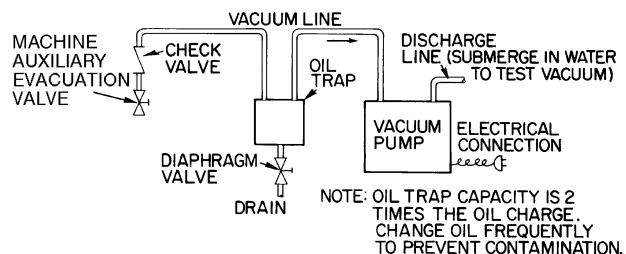
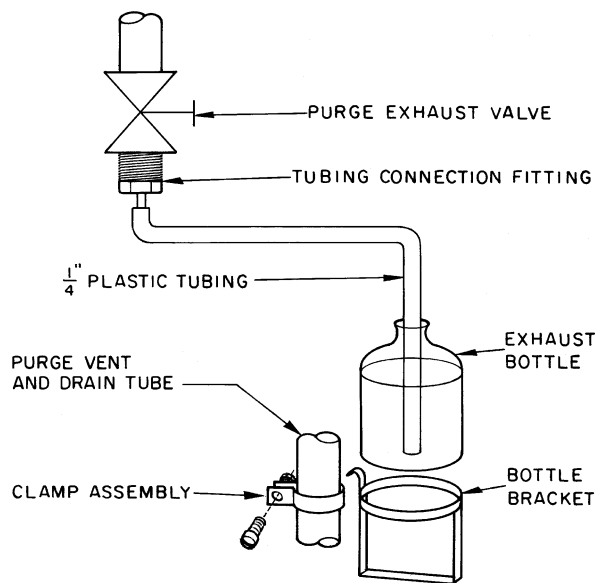

Fig. 4 — Auxiliary Evacuation Device
Fig. 5 — Purge Exhaust Assembly
1. Close all pump service valves, auxiliary evacuation valve (Fig. 4) and purge exhaust valve (Fig. 5).
- Connect auxiliary evacuation device (Fig. 4) to auxiliary evacuation valve. Be sure that the line is as short as possible and that line size is not smaller than connection to auxiliary device. A check valve must be used on the suction lines to keep vacuum pump oil out of the chiller. Be sure that all connections are vacuum tight.